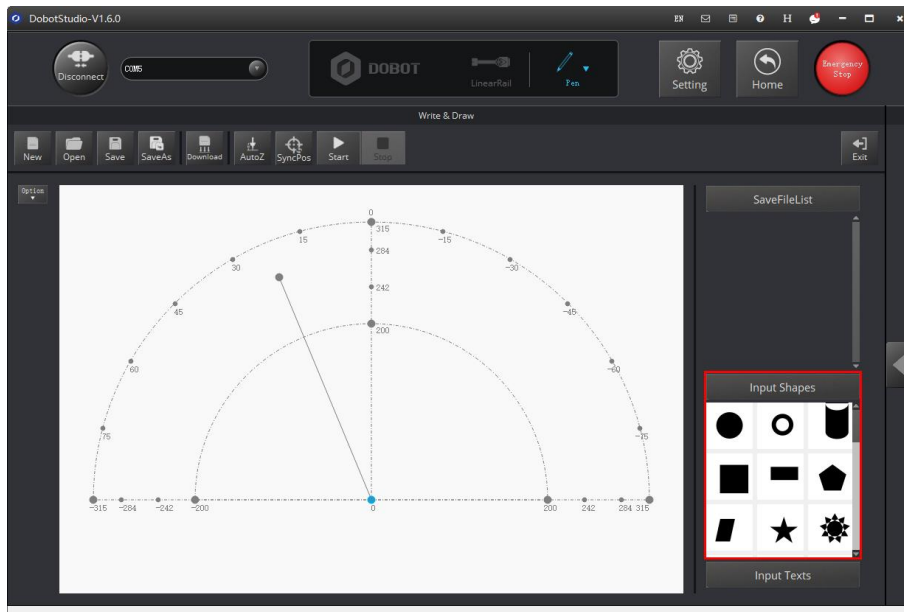

Figure 5.71 Insert a system image file
- Click a shape in the **Input Shapes** area to directly import a system image file, as shown in Figure 5.71.